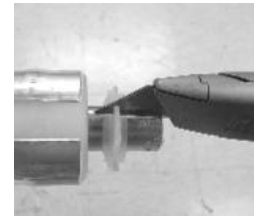

Figure 4
- 4) **Remove disc remnants** from center conductor using razor knife (Figure 4). **Deburr center conductor** using file. **Remove adhesive** with 3M Scotchbrite™ pad. (Tools required: Razor Knife, File, and 3M Scotchbrite™ Pad)